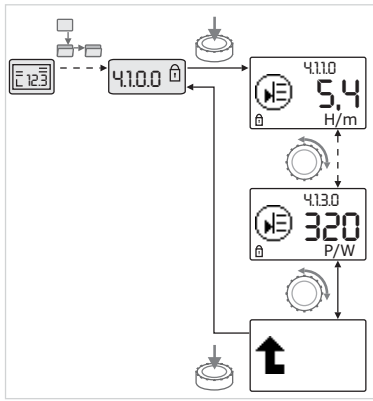

Fig. 40: Calling up information
- Turn the white button to access the “Information” menu elements in the current sub-menu (see Fig. 40). For an explanation of the settings represented by the symbols, see the table in chapter 8.7 “Menu elements reference” on page 99.